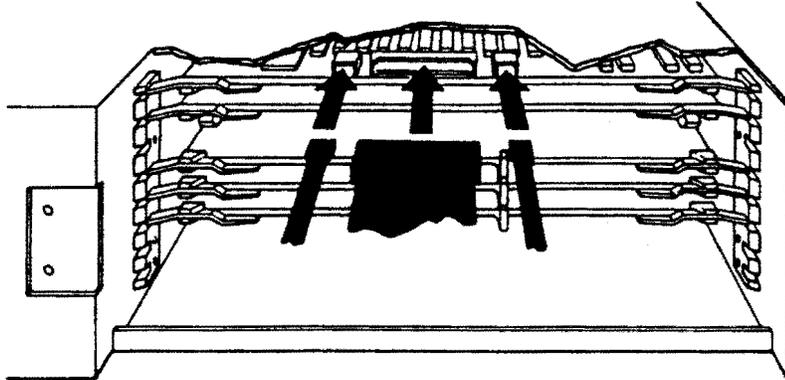

Figure 4-6: Module Cable Replacement
3. Slide the module partially into the slot, and reconnect any cables removed from the old module (Figure 4-6).